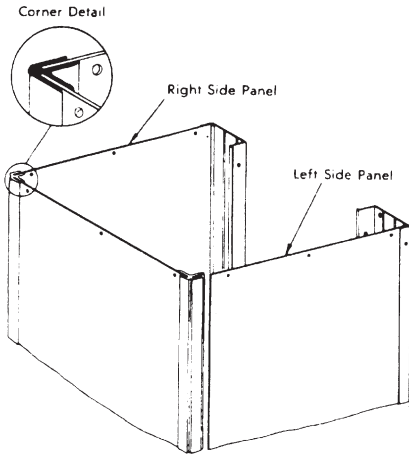

FIG. 2
2. Suspend **Right Side Panel** and **Center Panel Assembly** off floor. Working from outside, angle **Center Panel Assembly** slightly to start engagement. Engage a short section of the **Side Panel** and align so that top edge of panel is even with the top of the **Corner Lock Strip**. After total length of **Locking Strip** has been started, secure the strip in place by tapping from top to bottom. Repeat procedure for **Left Side Panel**. (FIG. 2)